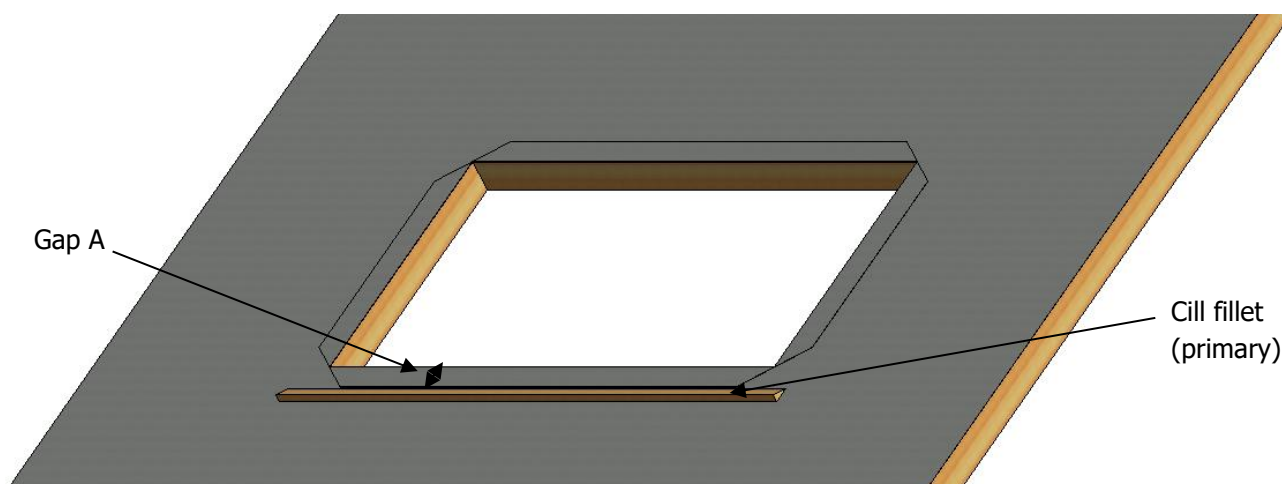

Fig. 2 – Cill tilting fillet installed
- Consider the distance required between the cill of the Product and the fillet (fig. 2 – gap A) – see sales drawing